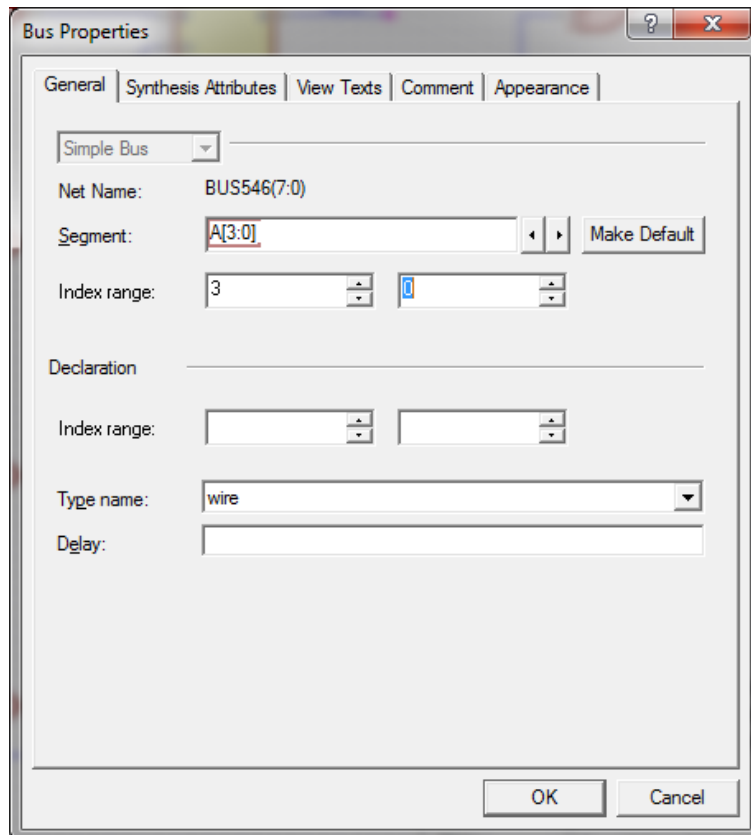

Figure 9
2. Type the name of the bus in the “Segment” field, and select the index range. By default, buses are 8-bits wide when drawn (see Figure 9 below).